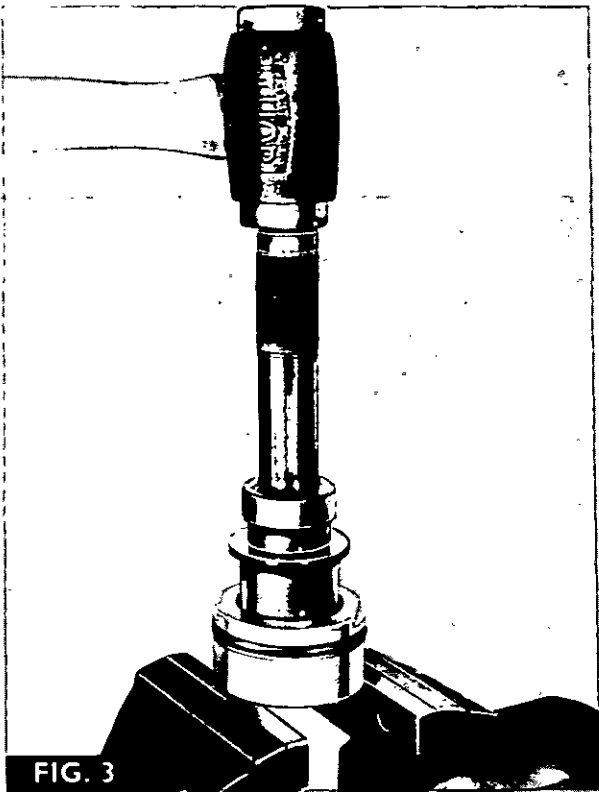

FIG. 3
4. Remove the oil seal using tool MF 168 and 550 handle as shown in Figure 3.